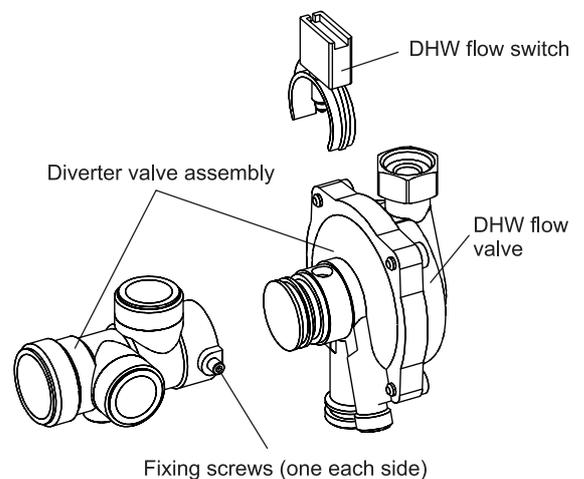

Fig. 32 HE CB25/33 only
8.29 DHW FLOW VALVE (HE CB25/33 only) - Fig. 32